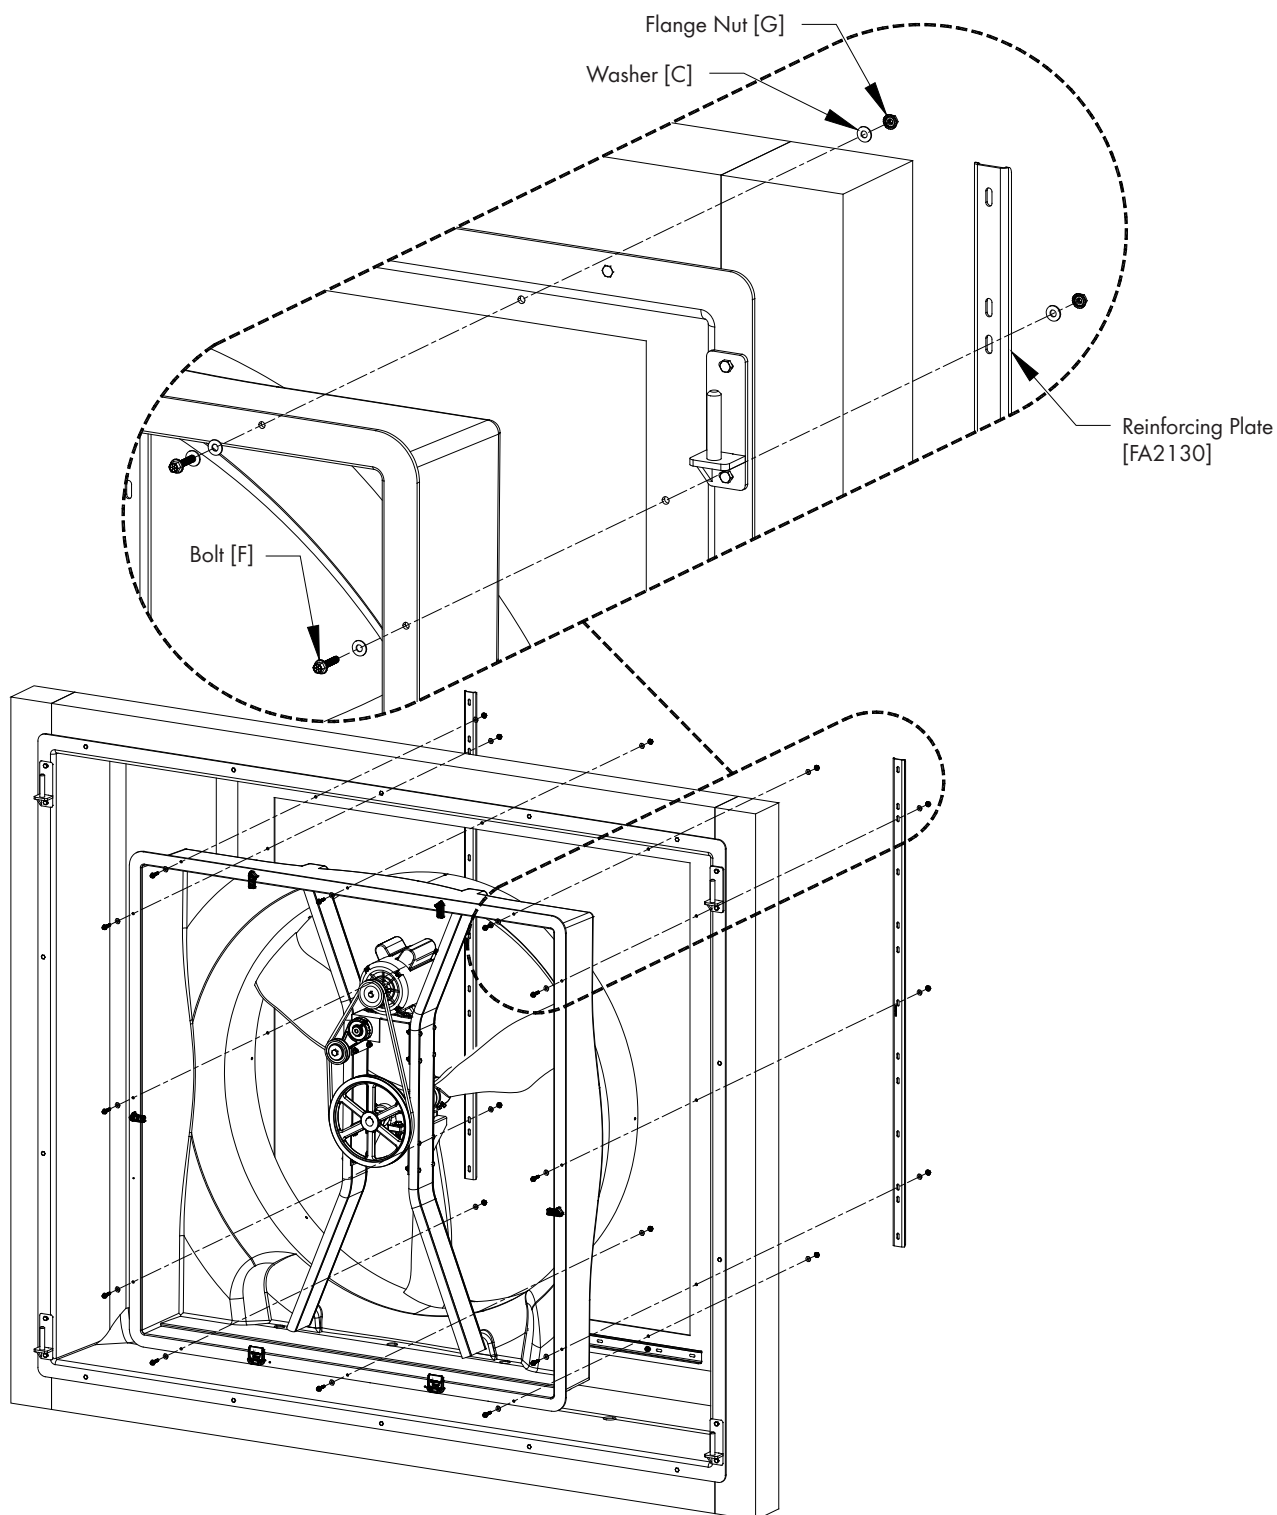

Figure 5C
Install the proper fan into the LTX Housing and secure in place using (12) Bolts [F], (24) Washers [C] and (12) Flange Nuts [G]. On the outside of the LTX Housing, a Reinforcing Plate [FA2130] will run vertically along each side of the opening for the fan. The bolt head should be on the fan flange in the housing and the nut should be on the outside of the LTX Housing. *See Figure 5C.*